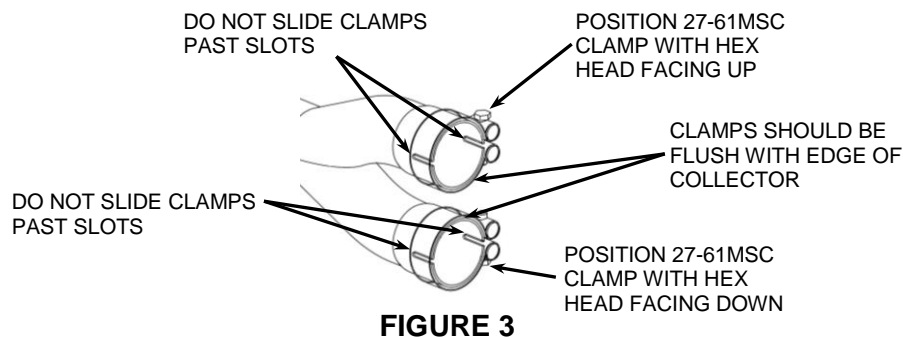

**FIGURE 2**
6. Install the supplied exhaust mount bracket using the stock bolts. See **FIGURE 1**. Tighten the bolts to factory specifications. If applicable, be sure to insert the large spacer between the exhaust mount and the transmission case as shown in **FIGURE 1**. For Switchback models, also insert 2 of the supplied small aluminum spacers into the large holes in the exhaust mount bracket as shown in **FIGURE 2**.